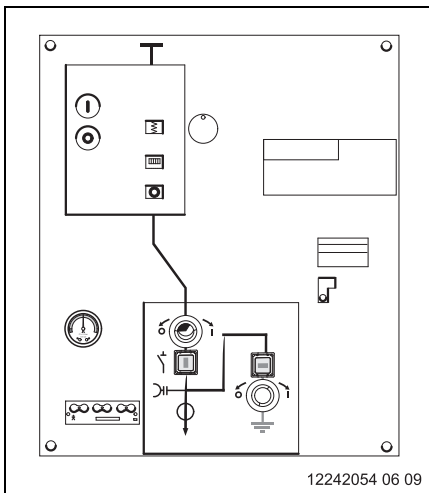

Fig. 14
- Remove the control panel cover. Do this by removing the 4 securing screws and lift the control panel cover off the circuit-breaker panel (Fig. 14).